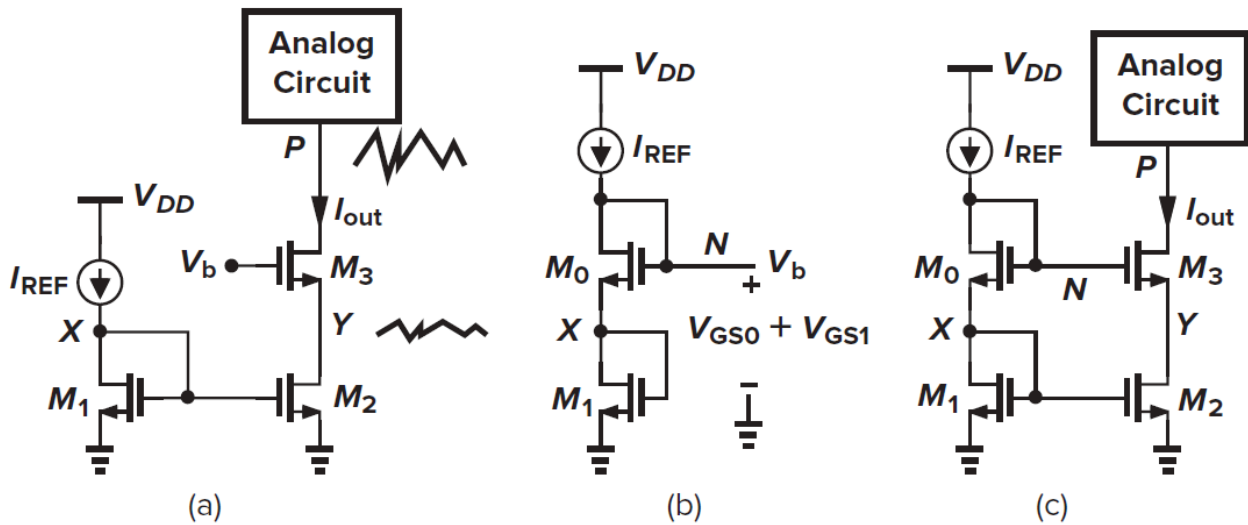
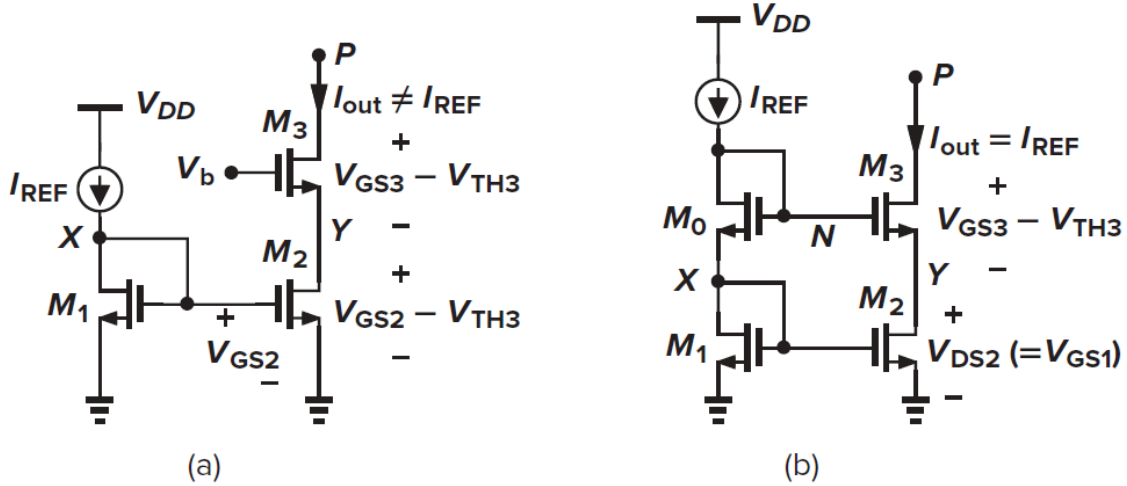

Figure 5.12 (a) Cascode current source, (b) modification of mirror circuit to generate the cascode bias voltage, and (c) cascode current mirror.
Figure 5.14 (a) Cascode current source with minimum headroom voltage; (b) headroom consumed by a cascode mirror.
First Approach We begin with the first principle and wish to ensure that V_{DS2} in Fig. 5.5(b) is both *constant* and equal to V_{DS1} . Recall from Chapter 3 that a **cascode device can shield a current source**, thereby reducing the voltage variations across it. As shown in Fig. 5.12(a), even though the analog circuit may allow V_P to vary substantially, V_Y remains relatively constant. But how do we ensure that $V_{DS2} = V_{DS1}$? We must generate V_b such that $V_b - V_{GS3} = V_{DS1} (= V_{GS1})$, i.e., $V_b = V_{GS3} + V_{GS1}$. In other words, V_b can be established by two diode-connected devices in series [Fig. 5.12(b)], provided that $V_{GS0} + V_{GS1} = V_{GS3} + V_{GS1}$, and hence $V_{GS0} = V_{GS3}$. We now attach the V_b generator of Fig. 5.12(b) to the cascode current source as shown in Fig. 5.12(c). The result allows accurate copying of the current even in the presence of body effect (why?).
A few notes on the sizing of the transistors in Fig. 5.12(c) are warranted. As explained earlier, we typically select $L_2 = L_1$ and scale W_2 (in integer units) with respect to W_1 to obtain the desired multiple of I_{REF} . Similarly, for V_{GS3} to be equal to V_{GS0} , we choose $L_3 = L_0$ and scale W_3 with respect to W_0 by the same factor, i.e., $W_3/W_0 = W_2/W_1$. In practice, L_3 and L_0 are equal to the minimum allowable value so as to minimize their width, while L_1 and L_2 may be longer in some cases.¹
While operating as a current source with a high output impedance and accurate value, the topology of Fig. 5.12(c) nonetheless consumes substantial voltage headroom. For simplicity, let us neglect the body effect and assume that all of the transistors are identical. Then, the minimum allowable voltage at node P is equal to
i.e., two overdrive voltages plus one threshold voltage. How does this value compare with that in Fig. 5.12(a) if V_b could be chosen more arbitrarily? As shown in Fig. 5.14(a), V_b could be so low
($= V_{GS3} + V_{GS2} - V_{TH2}$) that the minimum allowable voltage at P is merely two overdrive voltages. Thus, the cascode mirror of Fig. 5.12(c) “wastes” one threshold voltage in the headroom. This is because $V_{DS2} = V_{GS2}$, whereas V_{DS2} could be as low as $V_{GS2} - V_{TH}$ while maintaining M_2 in saturation.
Figure 5.14 summarizes our discussion. In Fig. 5.14(a), V_b is chosen to allow the lowest possible value of V_P , but the output current does not accurately track I_{REF} because M_1 and M_2 sustain unequal drain-source voltages. In Fig. 5.14(b), a higher accuracy is achieved, but the minimum level at P is higher by one threshold voltage.